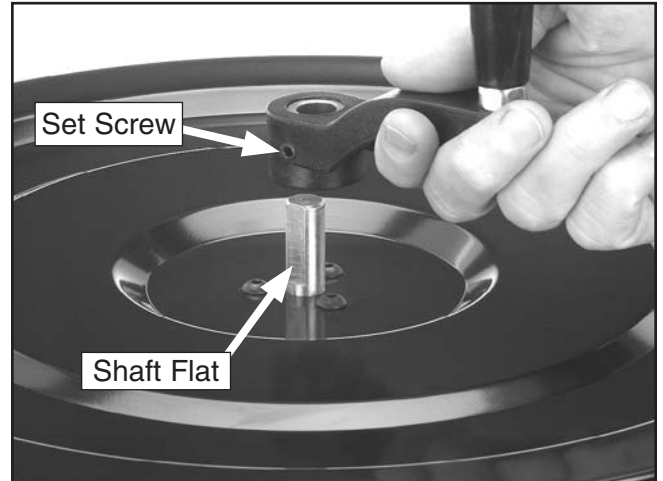

Figure 10. Installing canister handle.
- Install the handle onto the top of the canister and tighten the set screw against the flat of the shaft (**Figure 10**).